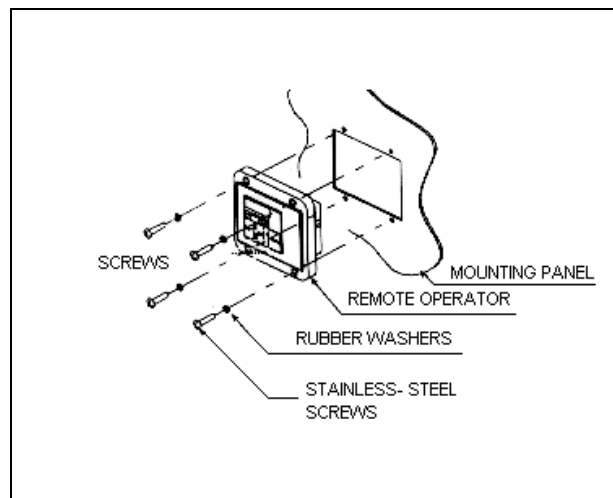

Figure 3: Surface Mount Installation
11. Finish the surface mount by installing the remote operator on the front side of the panel. Insert a rubber washer on each screw and then insert the screws through the front side of the panel. Four washers and four nuts are not needed in this application. Tighten screws gradually by hand to prevent damaging the rubber washers. See Figure 3.